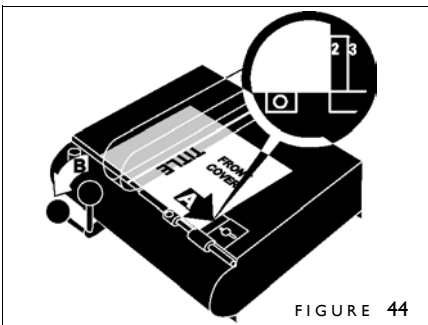

FIGURE 44
6. Slide your cover over again so its right edge (A) stops against step 2 (figure 44). Push the Lever to the left (B) to make a score.